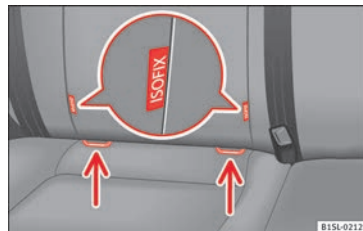

Fig. 26 On the vehicle seat: identification variants of the anchor points for the child seats
- Press the child seat onto the retaining rings »  **Fig. 26** in the direction of the arrow. The child seat must be safely engaged and click audibly into place.
- Place the child seat on the seat cushion and attach the retaining strap hooks to the retaining rings »  **Fig. 26**.